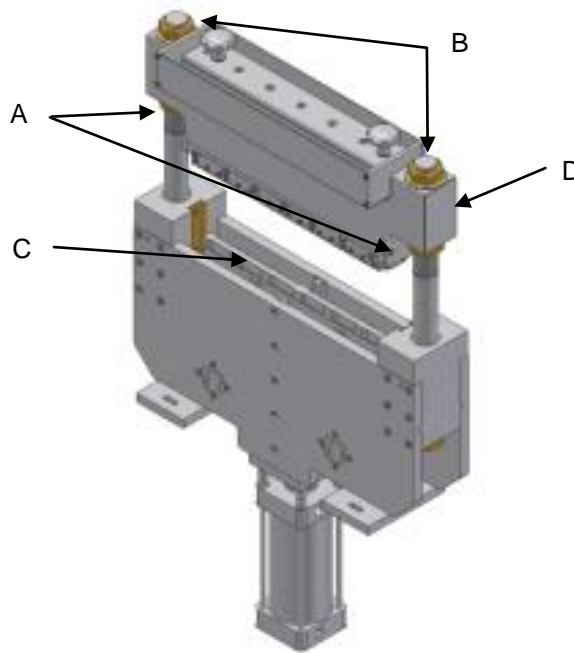

Figure 3.18 Rigid film punch
3.9.2.2 How to adjust the punch. (fig. 3.18)